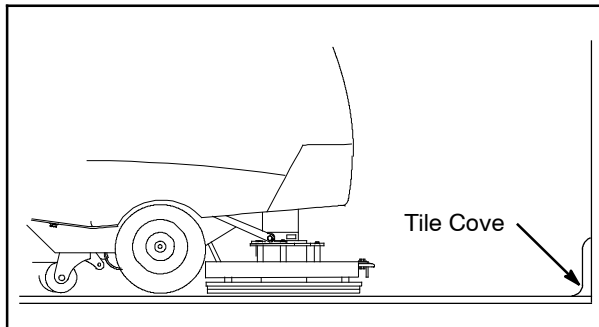

FIG. 42
7. Orbital Scrub Head Model - Use caution when working near the tile cove (Figure 42) and floor mounted fixtures such as pedestal sinks and other breakable items. Keep the metal scrub head edge away to avoid possible damage.